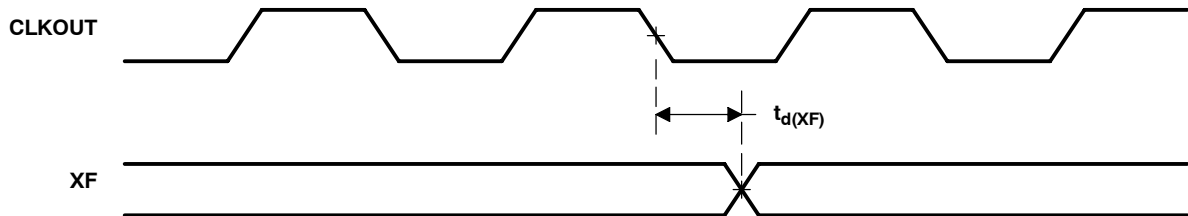
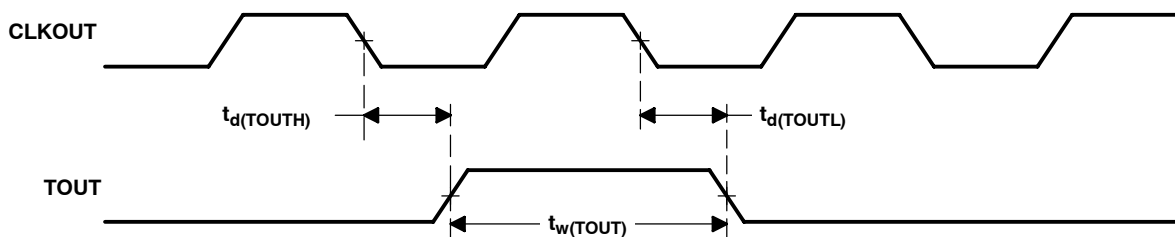

Figure 19. External Flag (XF) Timing
Figure 20. TOUT Timing
switching characteristics over recommended operating conditions for external flag (XF) and TOUT [H = 0.5  $t_{c(CO)}$ ] (see Figure 19 and Figure 20)